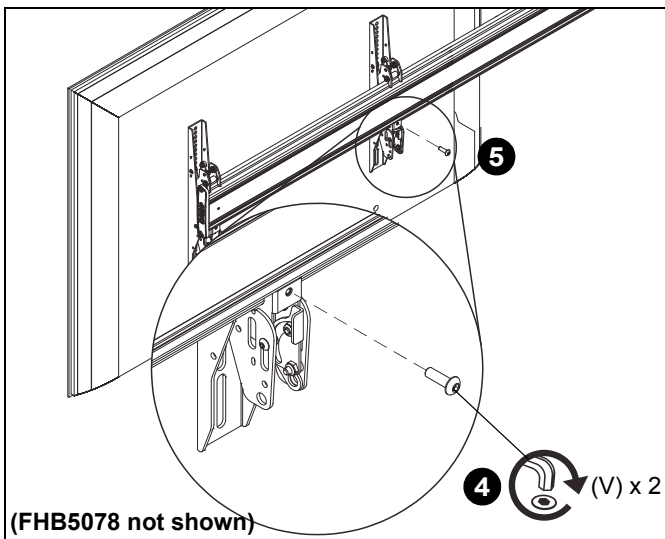

Figure 18
4. Fasten bracket against mounting rail using one 10-24 x 5/8" button head cap screw (V). (See Figure 18)